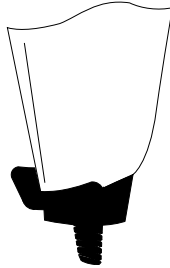

Figure 2-3. Boot Securely in Place
5. Slide the boot up while observing its orientation until it is securely in place (Figure 2-3).